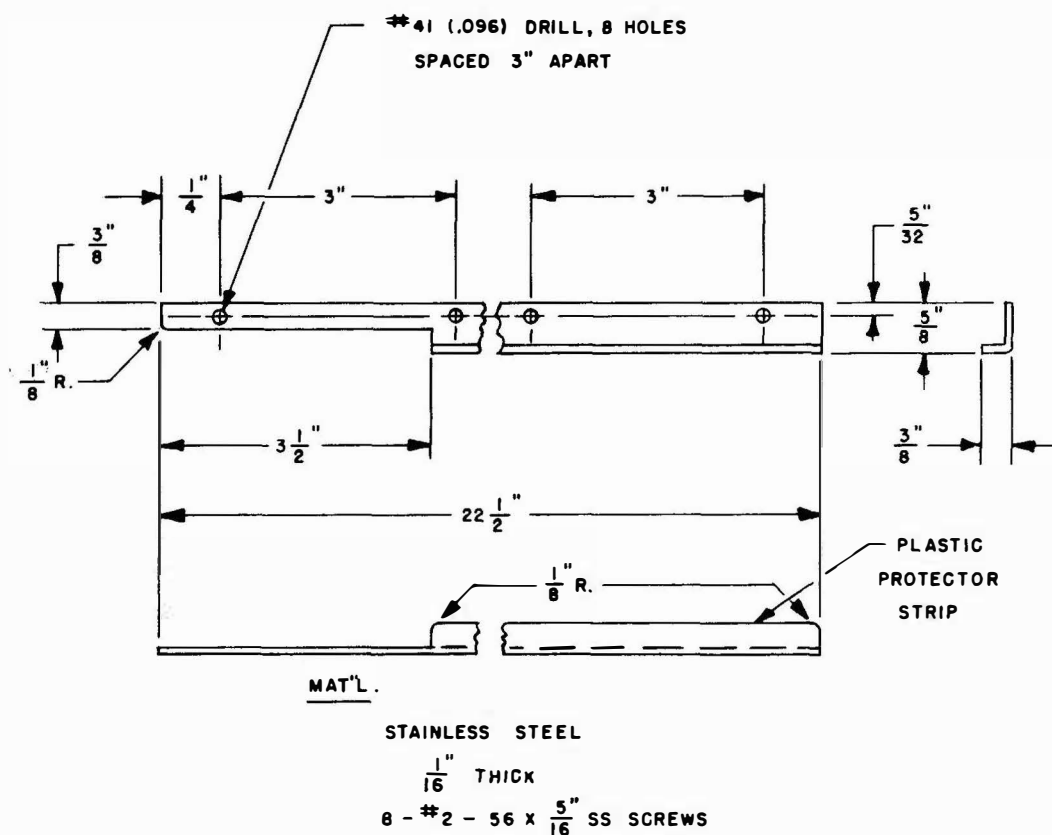

Figure 1. Door Support Tape Storage Bin
fixes is not known, the use of the angle bar support shown in figure 1, appears to offer a worthwhile solution to the storage bin access door problem. The stainless steel angle bar can readily replace the existing hinge cover strap on the tape storage bin door and is recommended for implementation where the basic problem exists. The plastic piece, shown in figure 1, should be attached along the top edge of the angle bar to act as a stop and prevent scratching the storage bin access door when open and resting on the stop. (799)